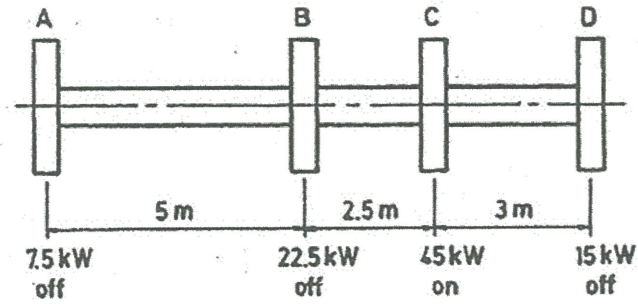

FIGURE Q5
- Q5** A motor delivers 45 kW at 200 rpm to pulley C , as shown in **Figure Q5**. Of this 7.5 Kw off by pulley A , 22.5 kW by pulley B and 15 kW by pulley D .